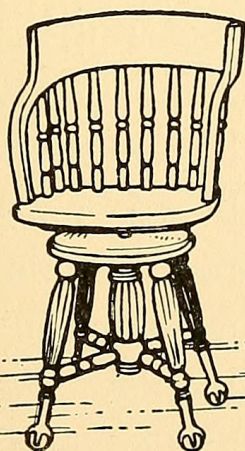
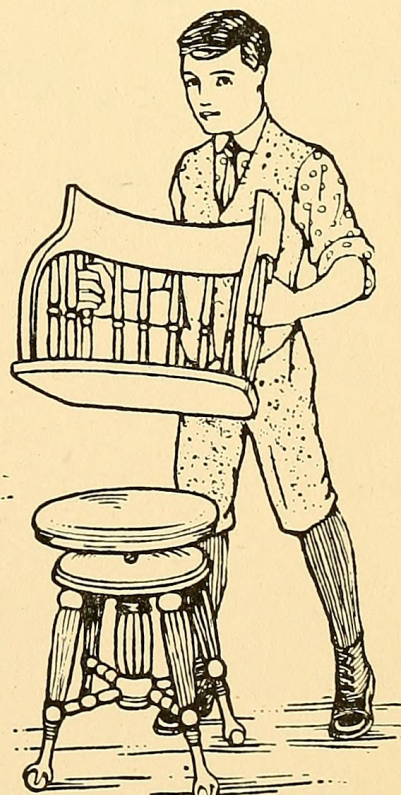

FIG. 189. — The Office Chair.
FIG. 190. — How the Seat and Back of a Chair are fastened upon a Piano-stool to form the Office Chair.
**An Office Chair** such as is shown in Fig. 189. Remove the chair legs, then set the seat and back upon the stool (Fig. 190) and screw it to the top; countersink the screw-heads, fill in over the heads with putty, refinish